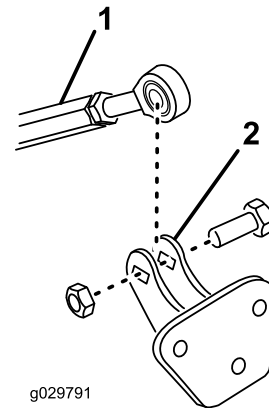

Figure 10
5. Secure the rod end of the threaded link to the link-support assembly with a bolt (1/2 x 1-1/2 inch) and locknut (1/2 inch) as shown in Figure 10.